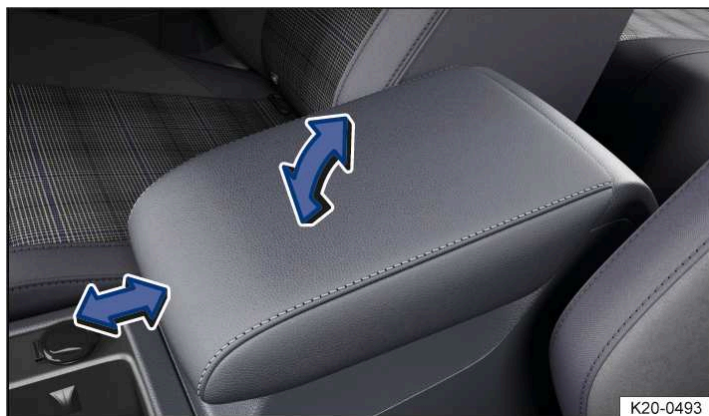

Fig. 1 Front centre armrest (illustration).
- To move it backwards and forwards: push the centre armrest in the direction of the arrow all the way forwards → Fig. 1 or all the way backwards.